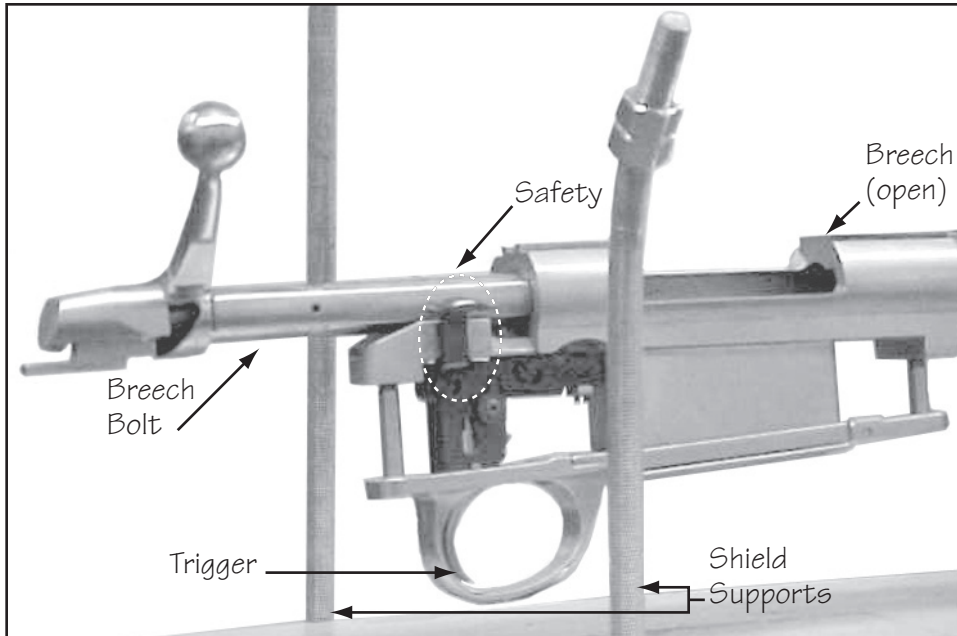

Figure 4.3-2.
4.3.11. Range Operator: **Place** the cartridge into the open breech (Figure 4.3-2).